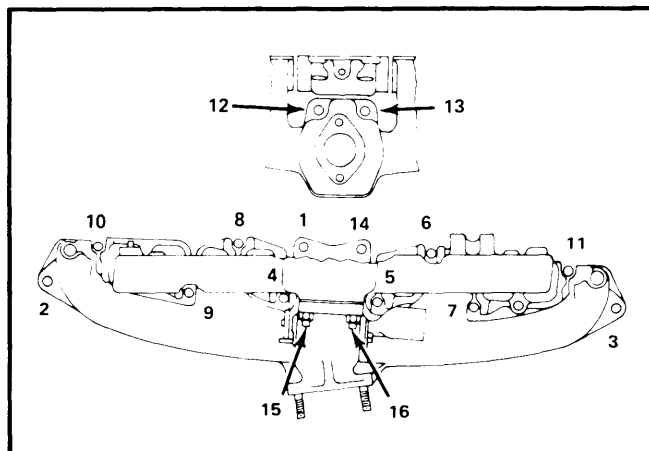

Fig. 1 Intake Manifold Tightening Sequence
2) Position new intake manifold gasket on cylinder head and install manifold assembly. Tighten manifold attaching bolts and nuts in sequence. See *Fig. 1*. To complete assembly, reverse removal procedure.